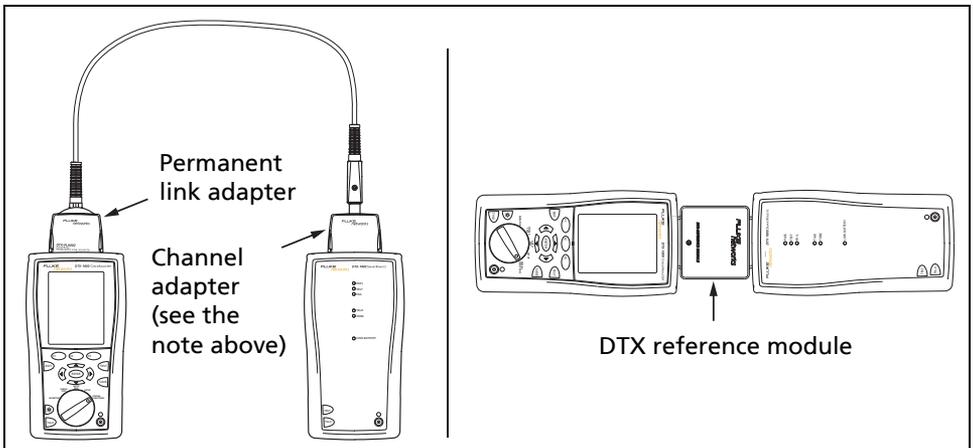

Figure 1. Reference Connections
- 1 Connect the DTX main and remote testers together with 8-position channel and permanent link adapters or with an optional DTX reference module (Figure 1).
The **Set Reference** connection screen shows the main and remote testers connected with the permanent link and channel adapters; however, if you are using a DTX reference module, connect the testers as shown on the right in Figure 1.